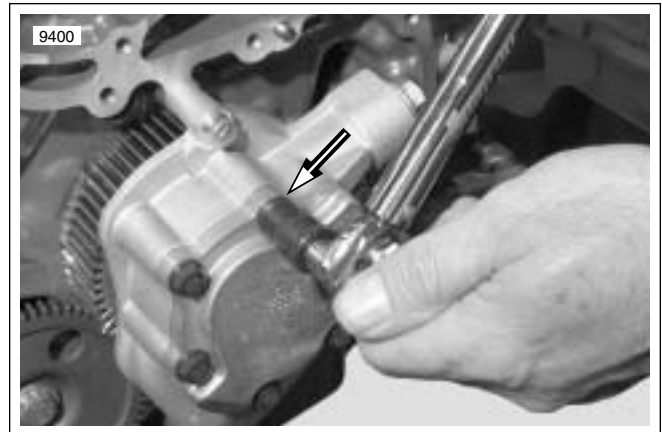

Figure 3-71. Oil Pump Cover @ 9.7 Nm (86 in-lbs)
8. See Figure 3-71. Using a crisscross pattern, tighten the oil pump cover fasteners to 9.7 Nm (86 in-lbs).